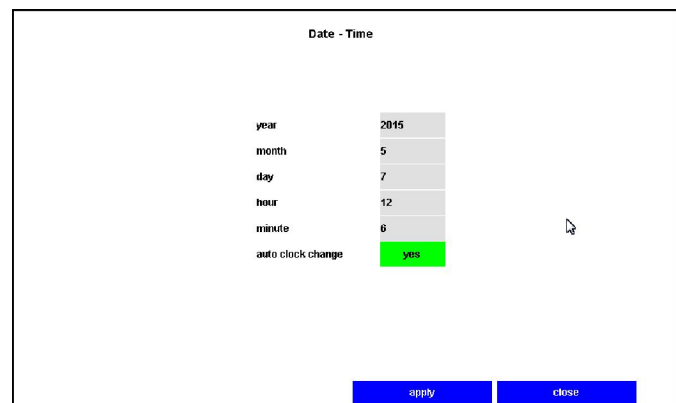

Fig. 25: Setting the date and time
2. ▶ Select the 'year' (Fig. 25) field and enter the calendar year.
3. ▶ Enter 'month', 'day', 'hour' and 'minute' (Fig. 25) in the same way.